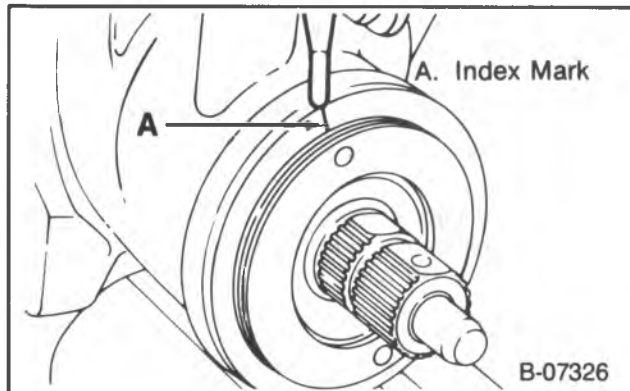

Figure 16 — Marking Housing Even with Adjuster Plug
3. Place an index mark on the housing even with one of the holes in the adjuster plug (figure 16).